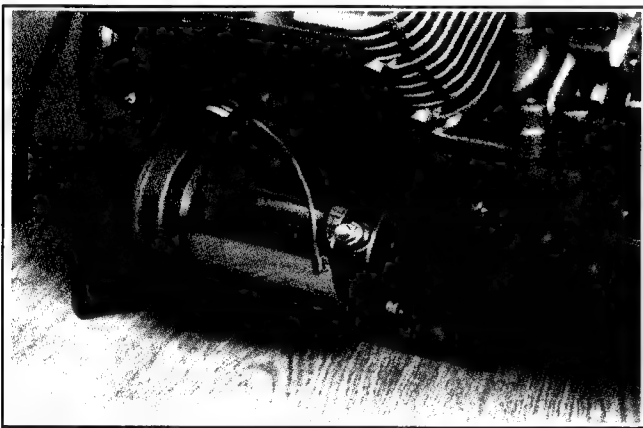

Figure 9-12. Removing Starting Motor.
3. Remove the top 3/8" mounting screw as shown in Figure 9-12.